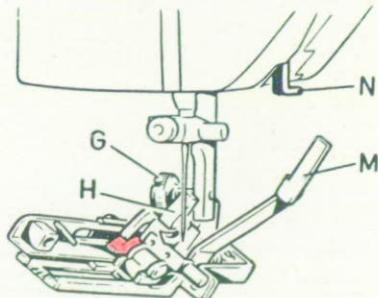

Fig. 68
Foot: Use the special buttonholing foot, included in the accessory box (fig. 68). To set this foot proceed as follows:
- apply the foot from left to right, keeping it inclined (see fig. 68), so that its shank « H » gets astride on screw stem;
- During these operations, lever « M » is to be maintained in the vertical position in order that, when the foot is completely set, this lever should be in front of lever « N » as shown in fig. 68.